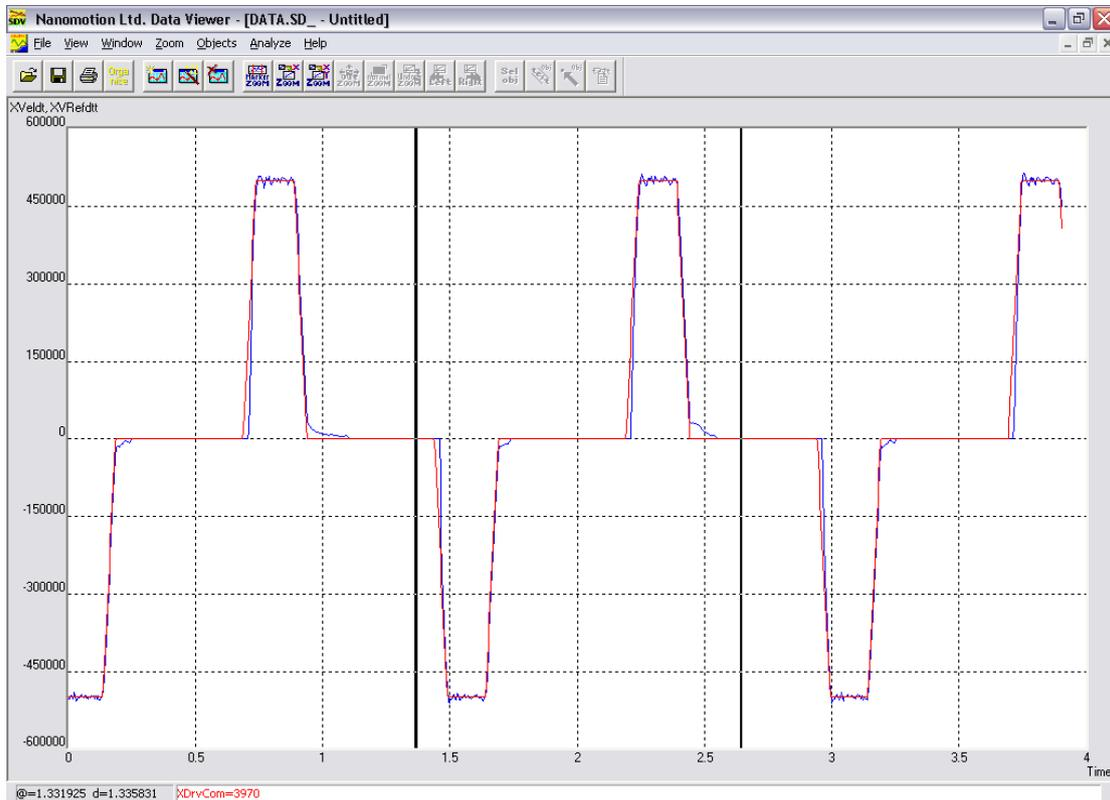

Figure 12: The Data Viewer Window
8. Press  button and wait for the Data Viewer window to appear (see Figure 12).